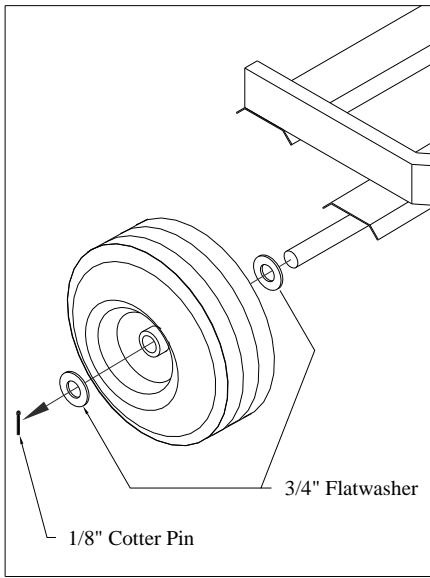

Fig. 1
1. Place frame (2) on blocks and level the frame with axles towards the bottom and frame facing upwards. Slip wheel (9) over container frame (2) axle pin, trapping 3/4" flatwasher on both sides of wheel. Secure with 1/8" x 1" cotter key. Slid hub cap over wheel hub. Repeat procedure with opposite wheel. **Fig. 1**